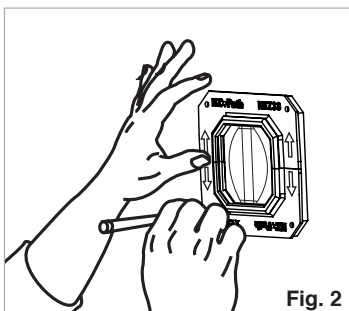

Fig. 2
3. Using outer sleeve as guide, insert in opening and locate the flange mounting holes. Remove sleeve. (see fig.2)